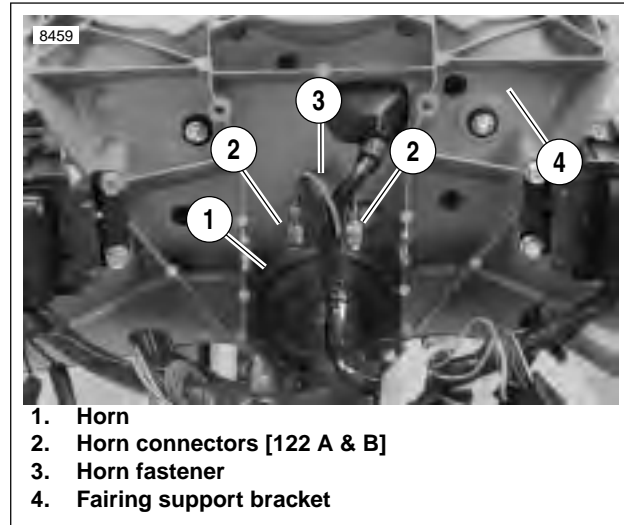

Figure 7-68. Horn Assembly
4. See Figure 7-68. Remove fastener (3).
5. Remove horn (1) from fairing support bracket (4).
2. See Figure 7-68. Attach horn (1) to fairing support bracket (4) using fastener (3). Tighten to 72-96 in-lbs (8.1-10.8 Nm).